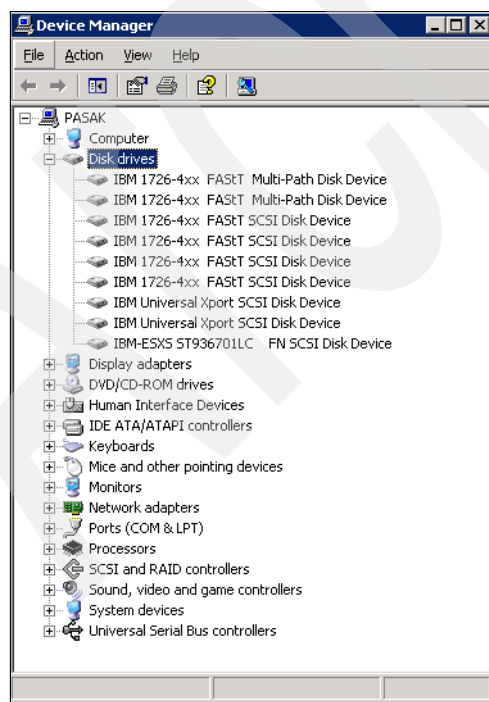

Figure 25-10 Device Manager in Windows 2003 Server
4. After the reboot, open Device Manager and expand **Disk drives**. Remember that, in the script (Example 25-1 on page 612), we created two logical drives. In Device Manager (Figure 25-10), you now see all the disks twice (redundant connections) and also two Multi-Path Disk Devices. This verifies that the operating system is seeing all paths, and the two created logical drives are presented to the OS by the multipath driver.